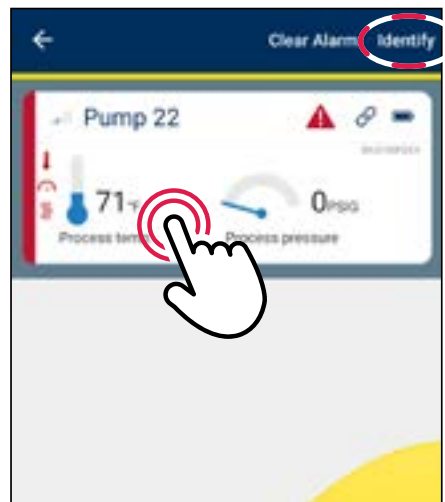

Figure 42
- For **Android**: **press and hold** the desired sensor (see figure 42). The identify/clear alarm option will appear.